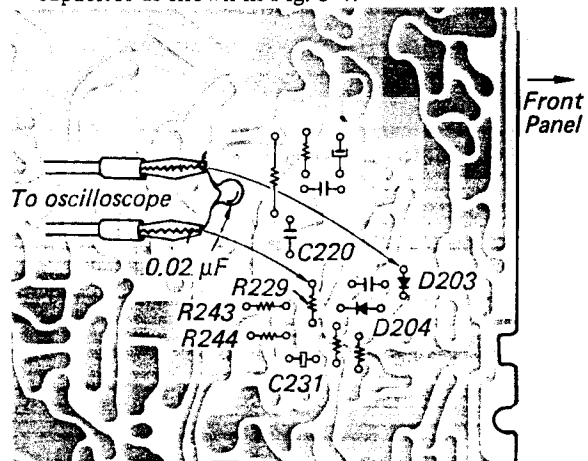

Fig. 3-3. Fm discriminator output connection
1. Connect the input cable of the oscilloscope with alligator clips to R229 and ground on the fm (a-m) front-end/i-f amp/MPX and preamplifier board, and solder a 0.02 μF capacitor across these clips as shown in Fig. 3-3.